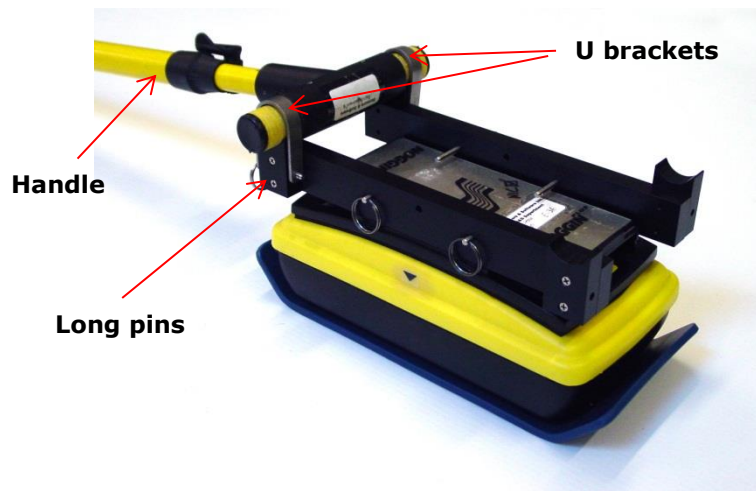

Figure 2-51: Attaching handle to one end of the brackets
5. Attach the handle to the front of the SmartTow Brackets using the U-brackets and long pins (Figure 2-51). Make sure the handle is attached to the end of the Noggin opposite the 37-socket cable connection.